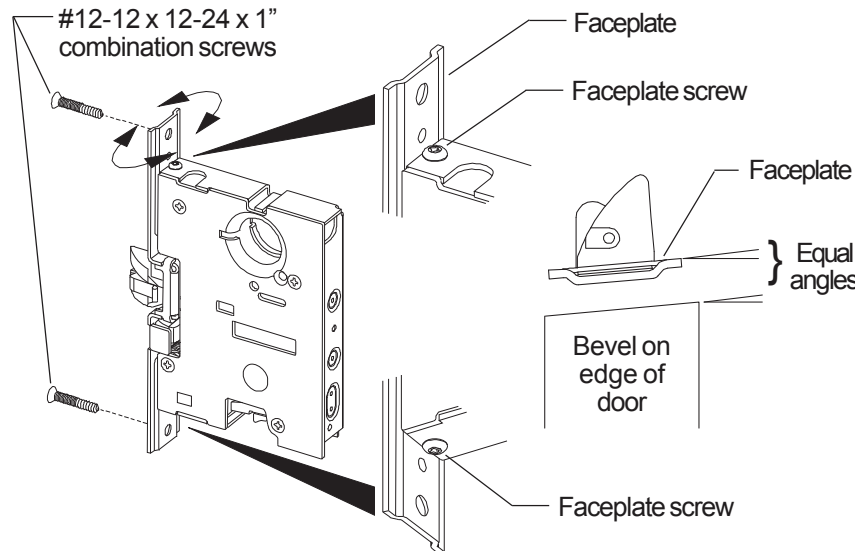

Figure 2
3. Adjust faceplate for door bevel (Figure 2):